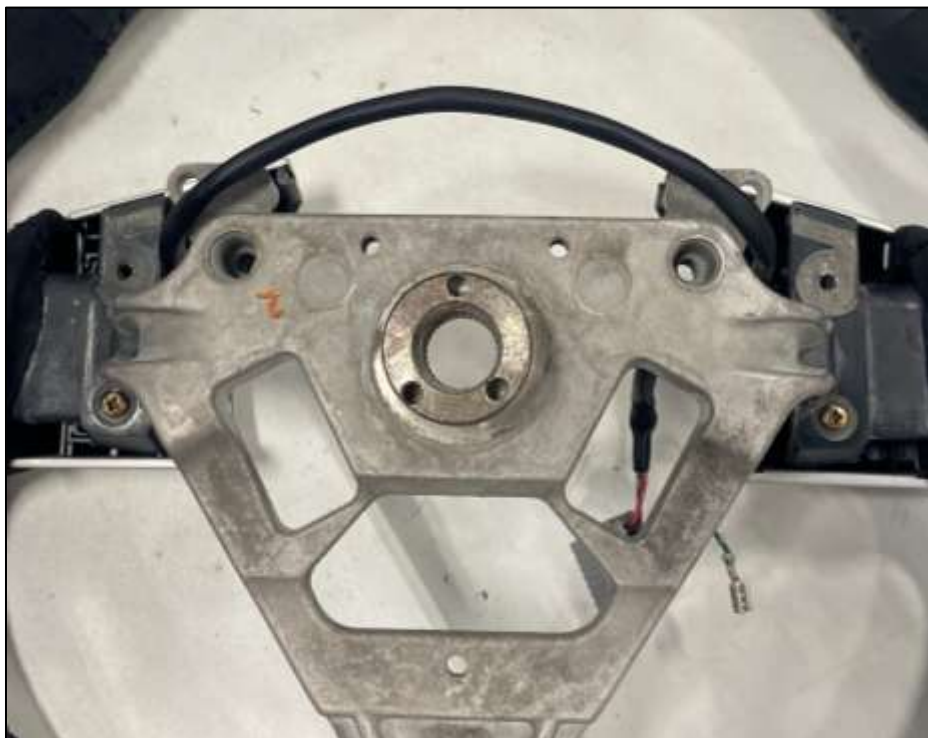

Figure 9
15. Flip the Steering Wheel upside down. Remove the (2) two screws on the back of the wheel to remove the Plastic Trim. *Figure 9.*